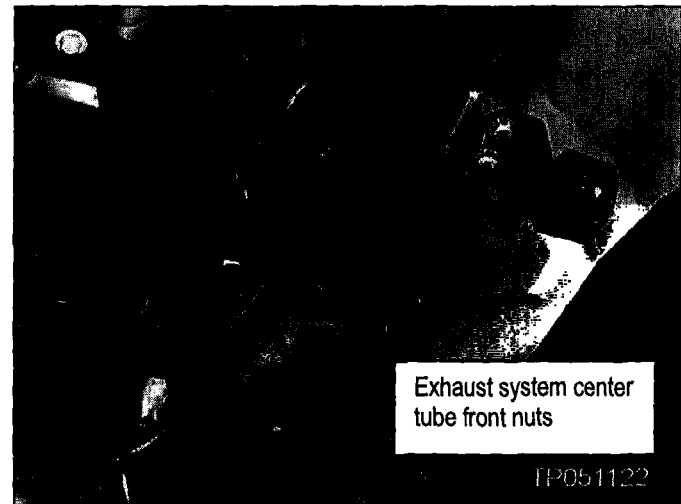

Figure 8
8. Remove and discard the exhaust system center tube front nuts (see Figure 8).